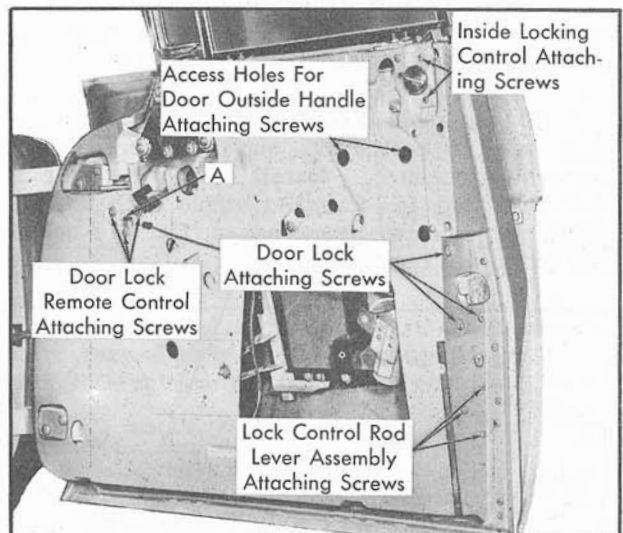
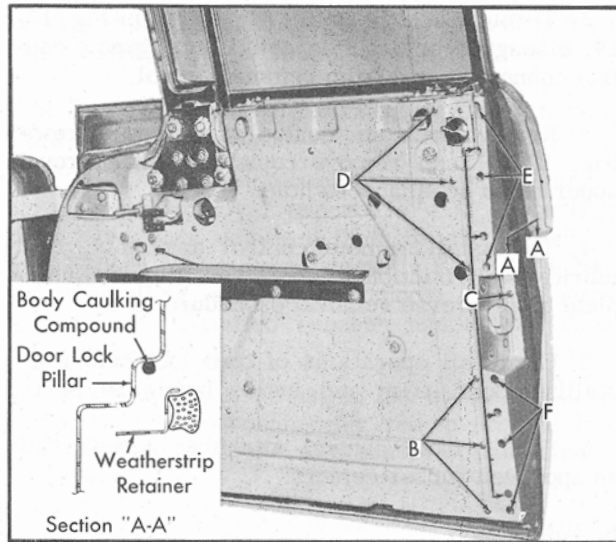

Fig. 17-19 Front Door Lock Attachment
Fig. 17-22 Front Door Weatherstrip Attachment
4. Through access holes shown in Fig. 17-19, remove outside handle attaching screws.
4. Remove inside locking control attaching screws, Fig. 17-19, and remove control with attached connecting rod and switch from door. Switch may be removed from control assembly as a bench operation.
(20) Front Door Lock Assembly Removal and Installation
5. Remove lock attaching screws from face of door lock pillar, Fig. 17-19, and remove lock assembly from door through access hole.
2. Through access hole "A", shown in Fig. 17-19, disengage spring clip and detach remote control connecting rod from remote control.
3. Remove remote control attaching screws, Fig. 17-19, and remove remote control through upper hinge strap access hole.
3. Through access hole "A", shown in Fig. 17-19, disengage spring clip and detach remote control connecting rod from remote control.
3. Remove door inner panel lower extension screws "B", Fig. 17-22, and remove extension. Remove control rod lever assembly attaching screws, Fig. 17-19, from face of door lock pillar and remove lever assembly from door.